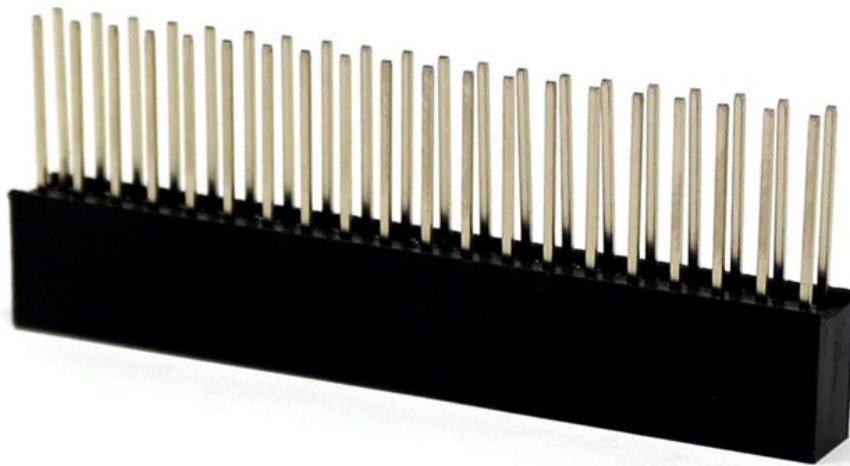

Fig. 2.2: Raspberry Pi HAT Connector - 10 mm Extended Tail Socket
- A stacking header block, as pictured in Fig. 2.2 to mount the XK-VOICE-SQ66 development kit board onto the Raspberry Pi using the standard 40 pin GPIO header. For your convenience a suitable header block is included in the XK-VOICE-SQ66 development kit package.